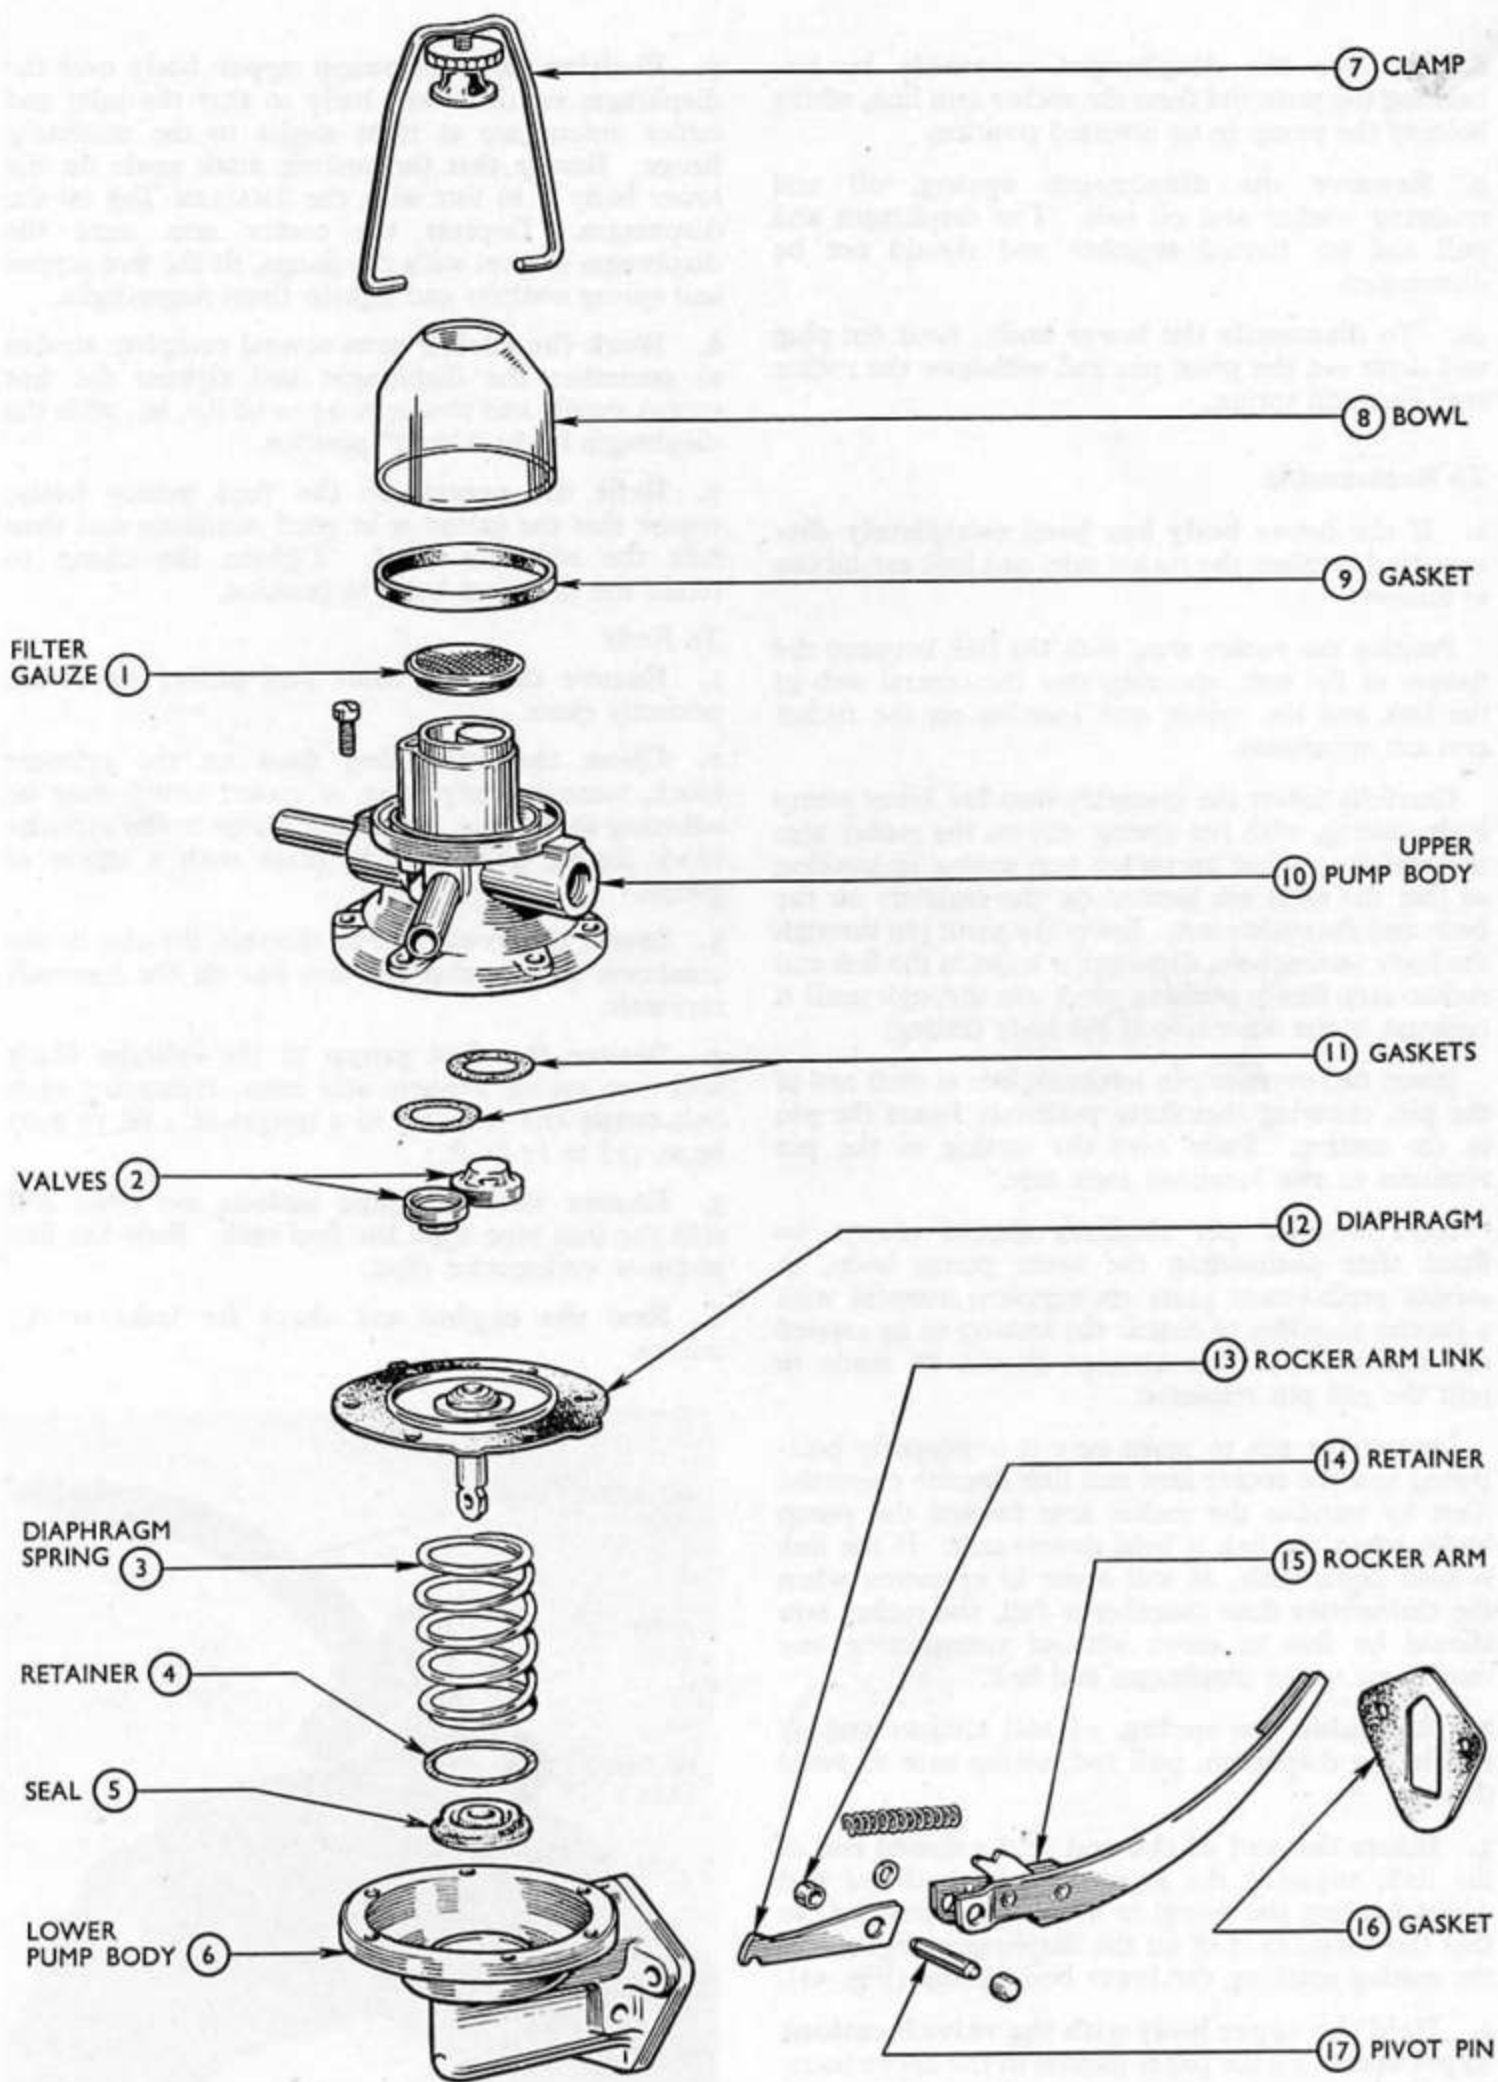

Fig. 30
4. Hold the upper body with the valve locations uppermost. Fit the paper gaskets in the upper body, then fit the two valve assemblies as shown in Fig. 30. Note that these will only seat properly when in their correct locations the correct way up. Stake the valves in position.